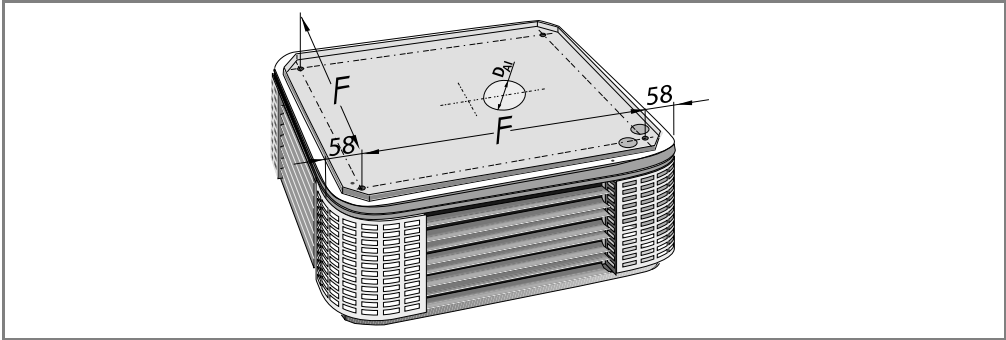

Fig. 4-3: Drilling dimensions for ceiling-mounted Multi Flair unit heaters
- Plot the drilling dimensions according to fig. 4-3 and tab. 4-2 onto the ceiling.